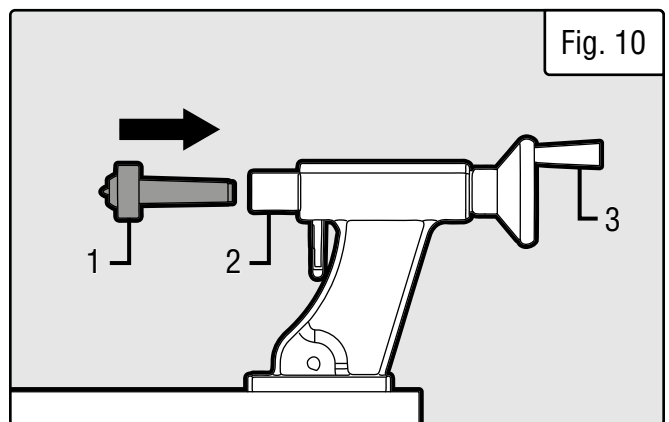

Fig. 10
1. Rotate the tailstock handwheel (Fig. 10 - 3) clockwise a few times to advance the quill (Fig. 10 - 2) forward.
2. Make sure the mating surfaces are clean. Push the live center (Fig. 10 - 1) into the quill.